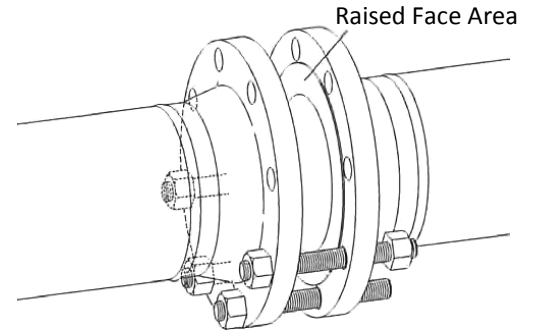
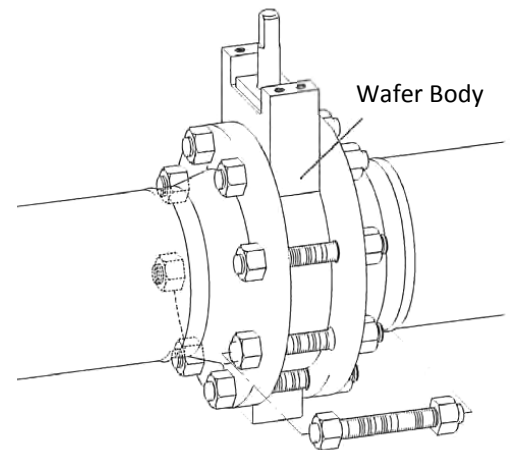

Figure 9
Figure 10
2. When installing wafer body valves, install lower flange bolts without tightening (Figure 9). Position valve and flange gaskets between flanges, within the pocket formed by the flange bolts. Install the remaining flange bolts, taking care that the gaskets are centered on the flange faces (Figure 10). **Note: While the WKM DynaCentric MB High Performance Butterfly Valve has bi-directional sealing capabilities, the preferred position is seat upstream (Figure 6). Handle operated valves or fail close valves should be installed seat downstream (stem side facing flow).**
5. Tighten all bolts or capscrews in a crossover or star pattern to insure even sealing (Figures 10 and 11).